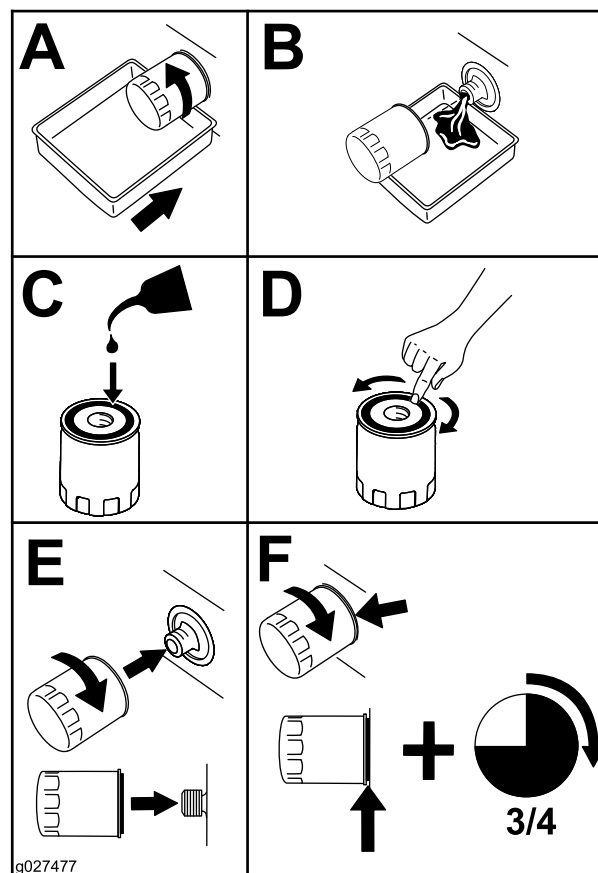

Figure 62
2. Change the engine-oil filter (Figure 62).